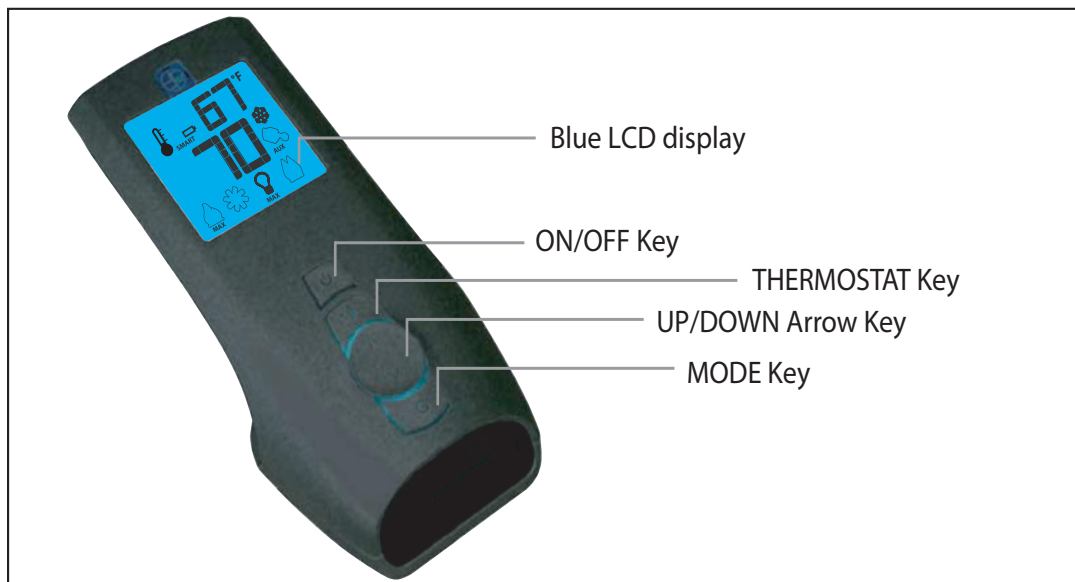
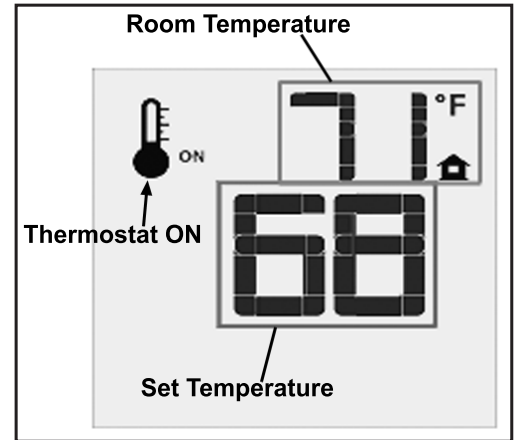

Figure 5: Proflame 2 Transmitter.
Figure 10: Remote Control Displays Set Temperature.
The Proflame 2 Transmitter is a remote control with a blue backlit LCD display. It uses a streamline design with a simple button layout and informative LCD readout (Figure 5). The Transmitter is powered by three (3) AAA type batteries. A Mode Key is provided to Index between the features and a Thermostat Key is used to turn on/off or index through Thermostat functions (Figure 5 & 6).
Press the ON/OFF Key on the Transmitter. The Transmitter LCD display will only show the room temperature and Icon (see Figure 10). A single “beep” from the IFC confirms reception of the command and both the pilot light (if the unit is not set to continuous pilot) and main burner will turn off.
The Remote Control can operate as a room thermostat. The thermostat can be set to a desired temperature to control the comfort level in a room. To activate this function, press the Thermostat Key (see Figure 5). The LCD display on the Transmitter will change to show that the room thermostat is “ON” and the set temperature is now displayed (see Figure 10). To adjust the set temperature, press the Up or Down Arrow Keys until the desired set temperature is displayed on the LCD screen of the Transmitter.